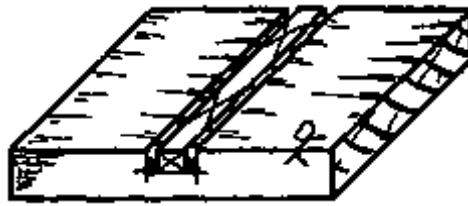

Fig. 4
- Saw the sides of the trench (on the waste side of the lines) down to the gauge lines (Fig. 4).